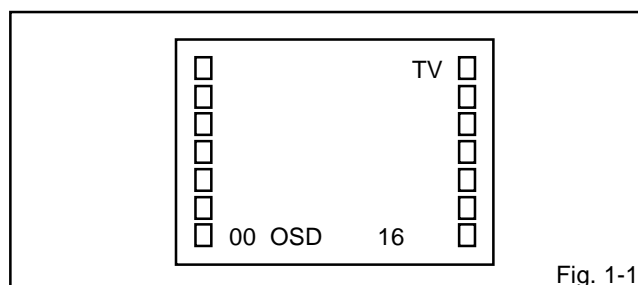

Fig. 1-1
1. In the condition of NO indication on the screen. Press the VOL. DOWN button on the set and the Channel button (**9**) on the remote control for more than 1 second to appear the adjustment mode on the screen as shown in **Fig. 1-1**.
3. Activate the adjustment mode display of **Fig. 1-1** and press the channel button (**01**) on the remote control to select "CUT OFF".
4. Activate the adjustment mode display of **Fig. 1-1** and press the channel button (**10**) on the remote control to select "R. BIAS".
3. Activate the adjustment mode display of **Fig. 1-1** and press the channel button (**22**) on the remote control to select "TINT".
6. Activate the adjustment mode display of **Fig. 1-1** and press the channel button (**19**) on the remote control to select "COL.CENT".